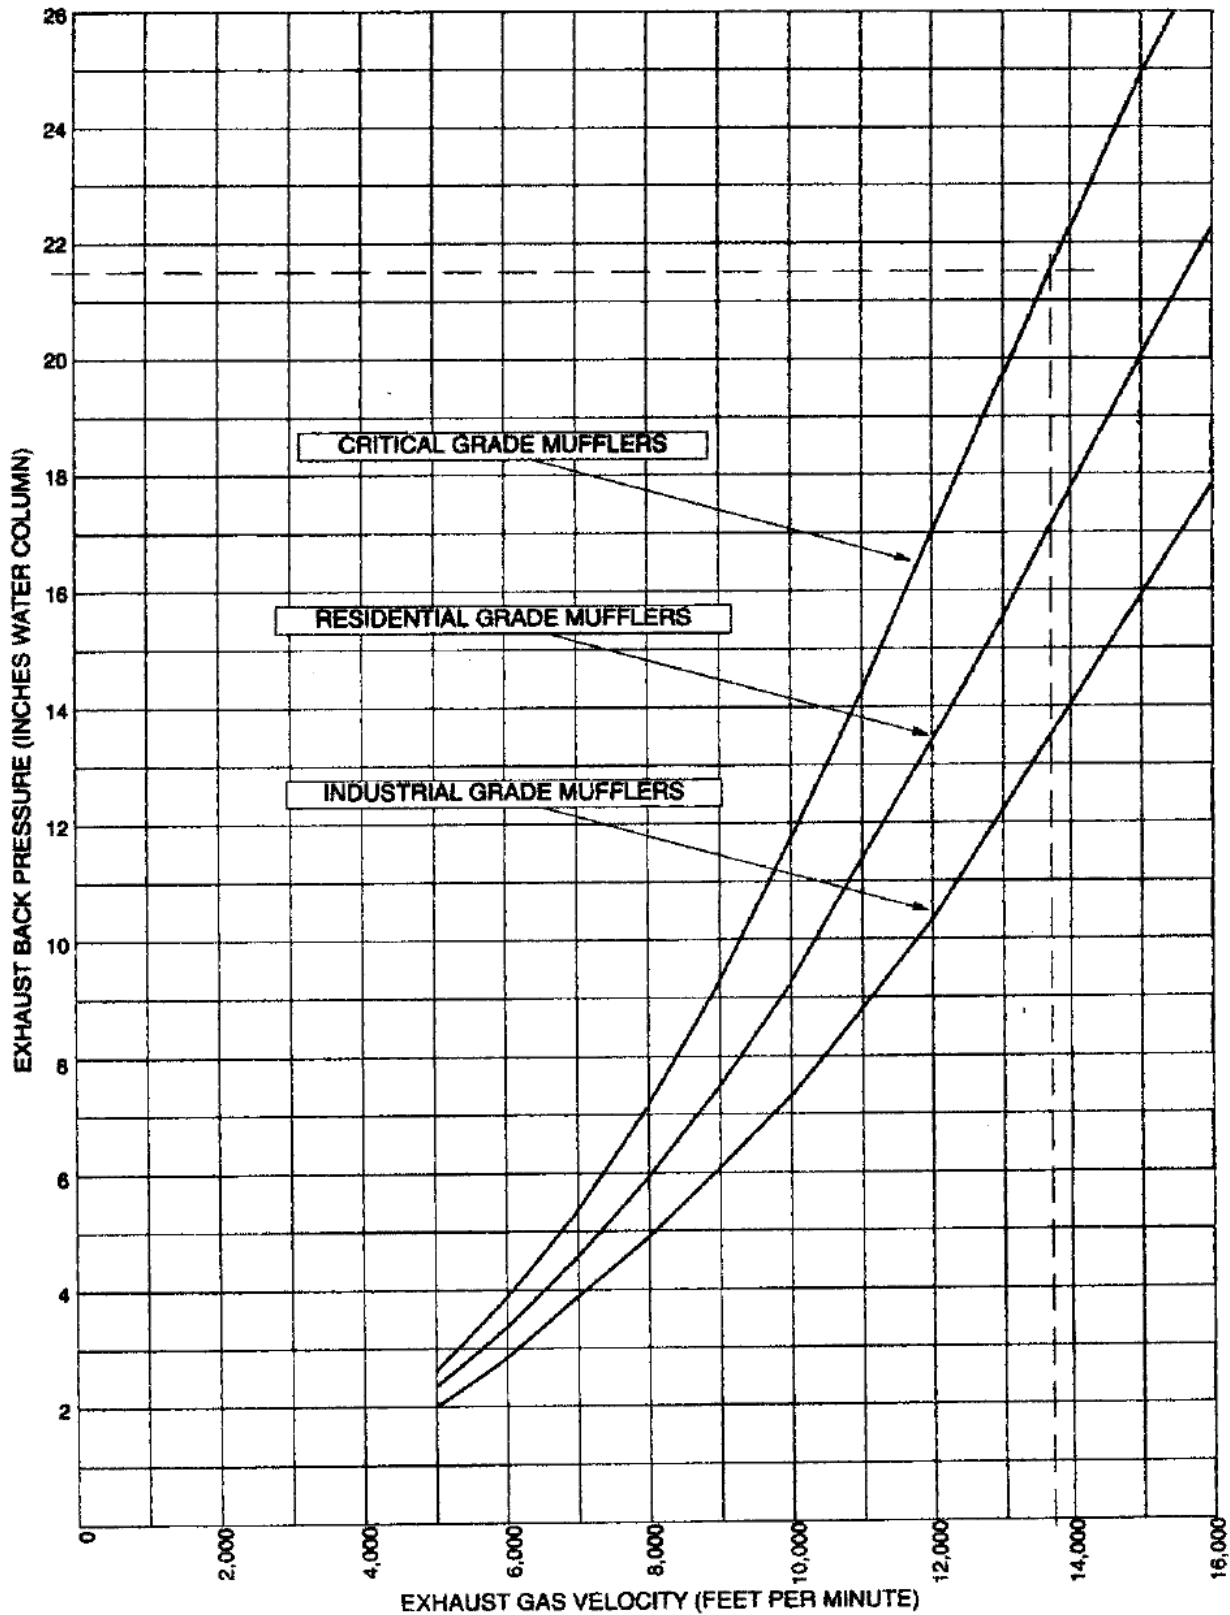

FIGURE 22. TYPICAL MUFFLER EXHAUST BACK PRESSURE VS. GAS VELOCITY
- Determine the exhaust backpressure caused by the muffler. Figure 22 is a graph of exhaust backpressures for mufflers made available by **GeneratorJoe**. If the muffler is from another source, it will be necessary to obtain equivalent data from the muffler manufacturer. To use Figure 22:
- In this example, the dashed lines in Figure 22 show that the critical grade muffler will cause a backpressure of approximately 21.5 inches W.C.